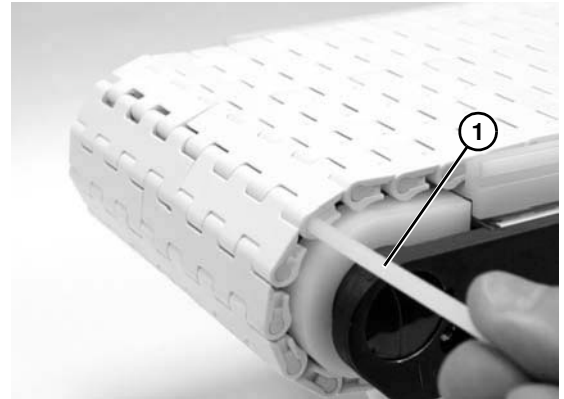

Figure 39
4. Splice the belt together by pushing the plastic rod (**Figure 39, item 1**) through the side hole.